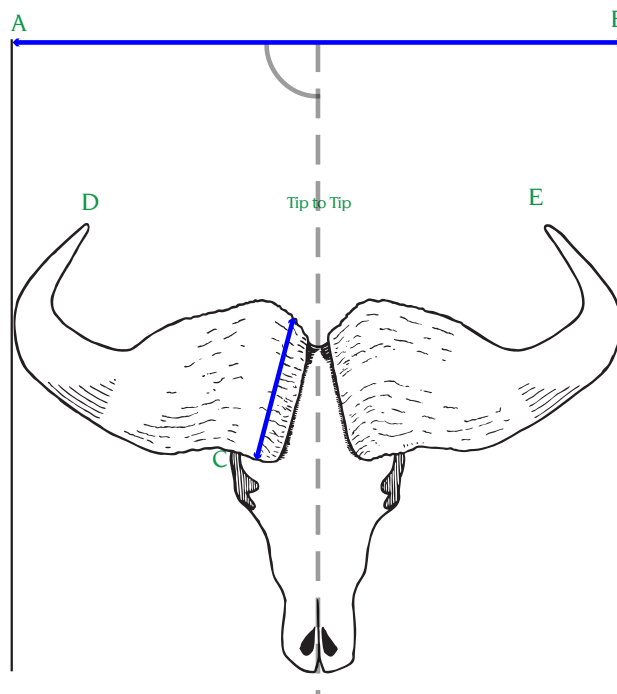

Figure 1 Cape Buffalo
1. Widest Spread. Establish the outer limits of the horns using two right-angle forms. Measure the greatest spread in a straight line and at a right angle to the axis of the horns. (Figure 1, A–B)